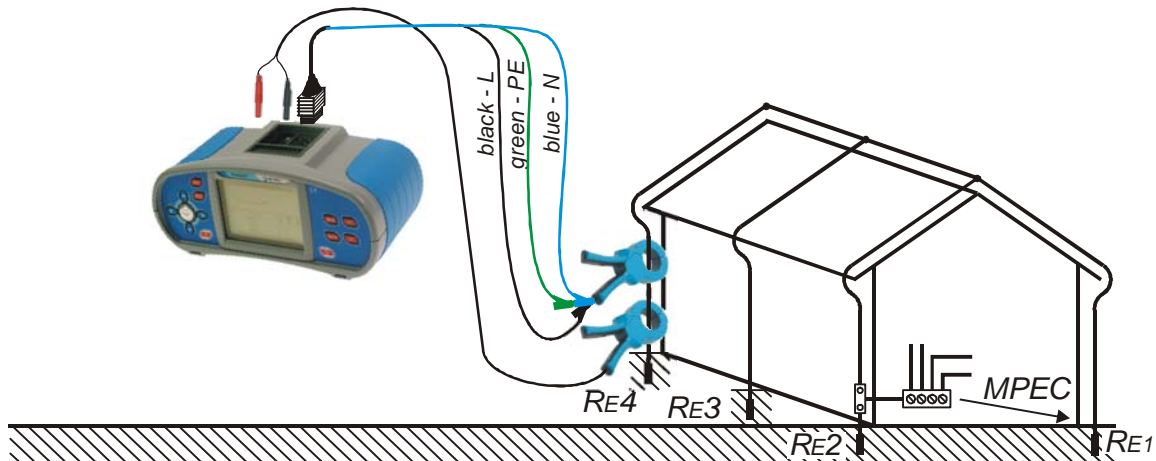

Figure 5.37: Resistance to earth, two clamps measurement of lighting protection
- Connect** test clamps to the tested object (see figure 5.37).